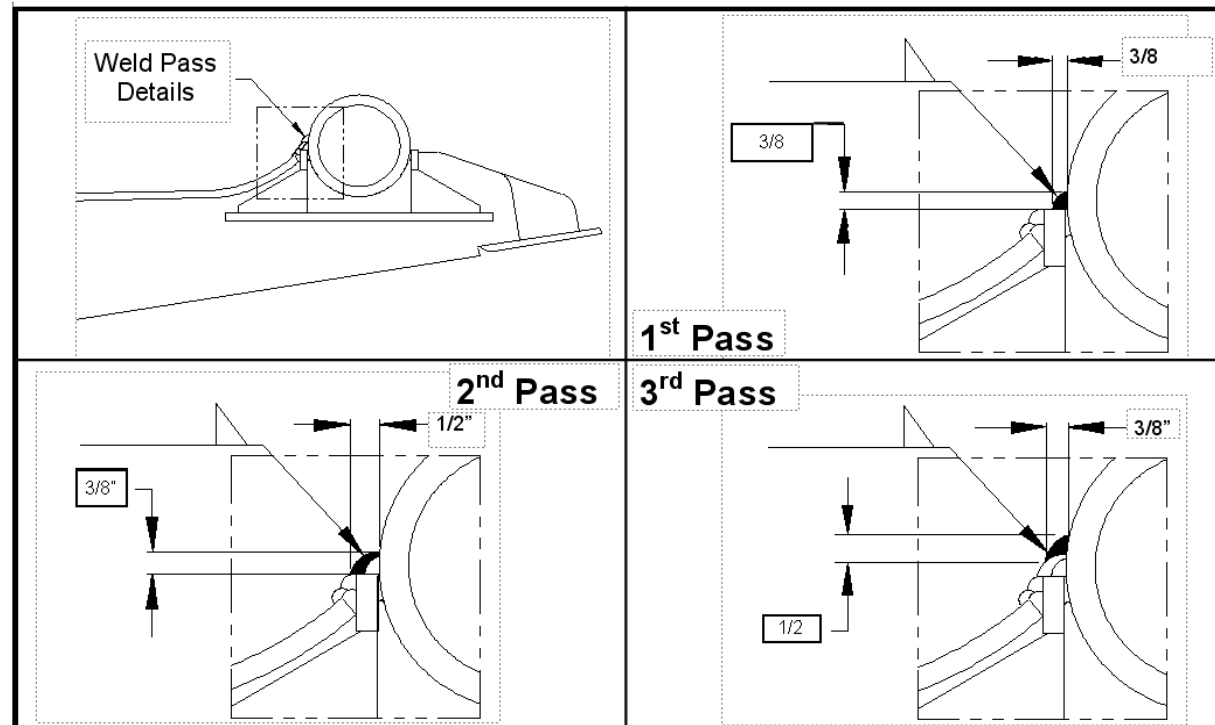

Figure 6
1. Three passes are required on each area where the axle is welded to the arms. Figure 6 shows the size of the weld of each pass.